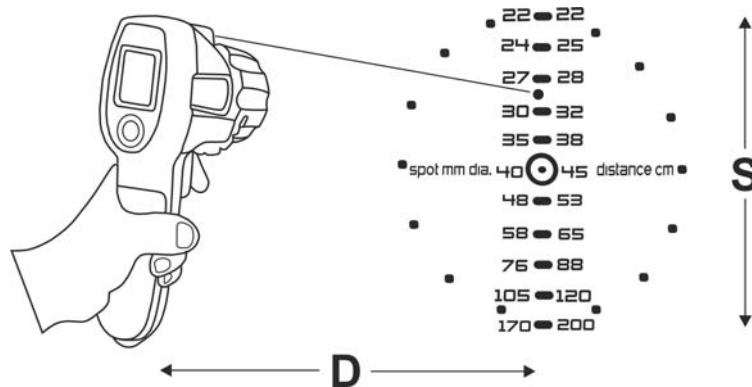

Fig. 16: Definition of Distance / Spot ration
5. Bring the instrument further or closer to the target, paying attention to the progressive increase or decrease of the which can be detected according to the reference numerical values indicated on the side of the instrument (see Fig. 16).